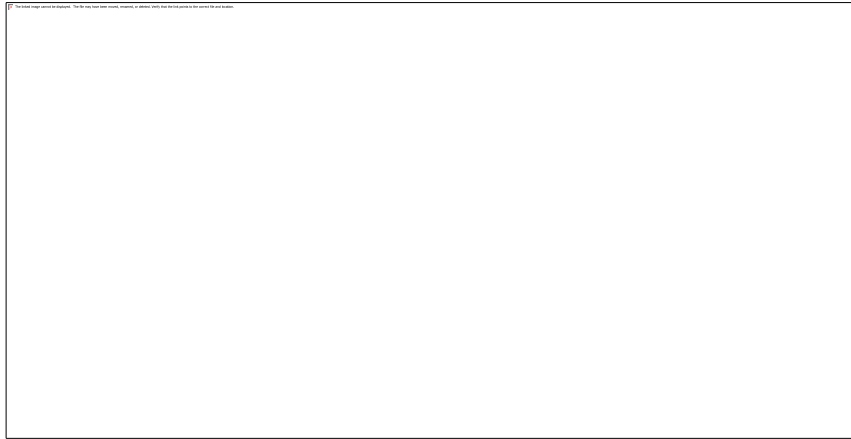

Figure 4-50
18. Now click on Area no. 1-3 and Area 1-4, then *Right-click|Assign to Sys Flow*. Ensure the “System Flow Number” has changed to 2. Click [OK]. See Figure 4-50.